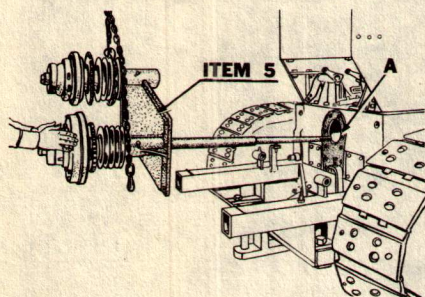

Figure 7 Inserting Power Take-Off Shaft
Place gasket supplied with Item 5 against the rear face of the tractor as designated (A), Figure 7.